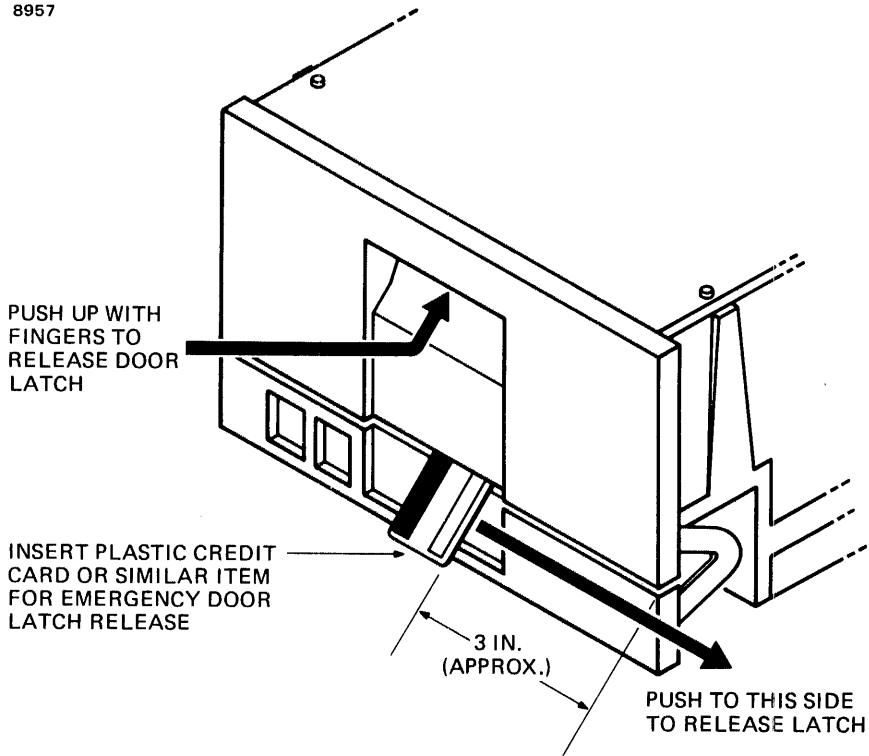

Figure 6-1 CDD50 Emergency Access Door Release
3. Insert a plastic card or similar object into the space between the access door and the lower front panel. See Figure 6-1. The card or other object should then be moved to the right to release the tab that is located behind the front panel. At the same time, push up with your fingers to release the door latch. The door can now be pulled open and the cartridge removed. The front door must now be closed.